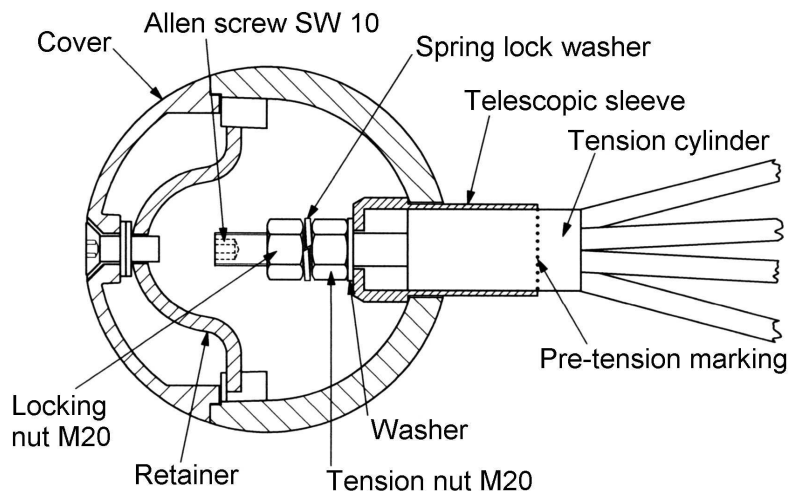
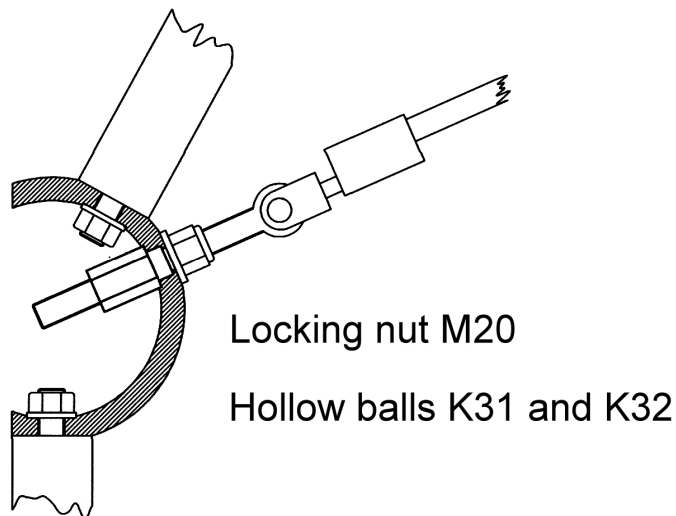

figure 16
figure 17
Preassembly of the space net begins by screwing the tension systems into the hollow balls of **K30** (figures 9.1; 9.2, 10 and 16). In doing this, the tensioning cylinder is inserted into the telescopic sleeve with the M20 bolt and mounted from the inside with the tension nut M20 (Size 32) with approximately 5 turns of the thread. After this, the tension screws for hollow balls **K31** and **K32** (figures 9.1; 9.2 and 10) are made which also mount the tension rope via the fork screws (figure 17).
Firstly the aligned connection on the hollow ball **K29** is to be solidly secured. Tensioning of the space net begins on the hollow balls of **K31** and **K32** which are screwed to the locking nut (figure 17) using the special spanner supplied. After doing this tensioning is made on **K30** hollow balls up to the marking (figure 16). Finally, the space net must be under a **tension having an even strength throughout**.
After tensioning, the tension nuts are to be locked on all **K30 knot points** using the locked nuts and spring lock washer provided (M20 Size 32). **In order to tighten the locking nut, the Allen key Size 10 must be inserted into the M20 screw and held (Figure 16).** The locking nuts Size 30 (**figure 17**) are to be inspected once again to ensure that they are solidly secure at the **K31 and K32 knot points**. Finally all knot points from **K29 to K32** are to be closed by screwing the knots with the prepared covers via a clamping screw (**figure 16**). In doing this please ensure that the cover is positioned evenly so that our company logo is readable. Thank you.
- The first re-tensioning must be carried out after one to two weeks. Re-tensioning is made via the tension nuts (M 20) in the hollow balls. Firstly the **balls K31 and K32** are re-tensioned. After removing the cover using an Allen key Size 10 and loosening the locking nut M20 Size 30 (**figure 17**) on the outside of the ball, the inside tension nut Size 30 is re-tensioned with the box spanner. It is imperative that the **locking nuts** be solidly tightened **after re-tensioning**. After this, further re-tensioning is made at the **K30 knots** and should be carried out evenly. In doing this the inside locking nut M20 Size 32 is loosened after removing the cover and re-tensioned at the tension nut M20 Size 32 beyond the pre-tension marking using the special box spanner supplied. After re-tensioning, the tension nuts on the K30 knots must be **locked again** with the locking nuts. **Please note to the spring lock washer between the nuts.** In order to loosen and secure the tension nut and locking nut M20 Size 32, the bolt M20 can be held with an Allen key Size 10 (**figure 16**). Finally the open hollow ball is once again closed with the cover. Please ensure that the cover is placed evenly so that our company logo is readable. Thank you.
- Check the locking nuts (**figure 17**) to ensure solid seating at the **K31 and K32** hollow balls.